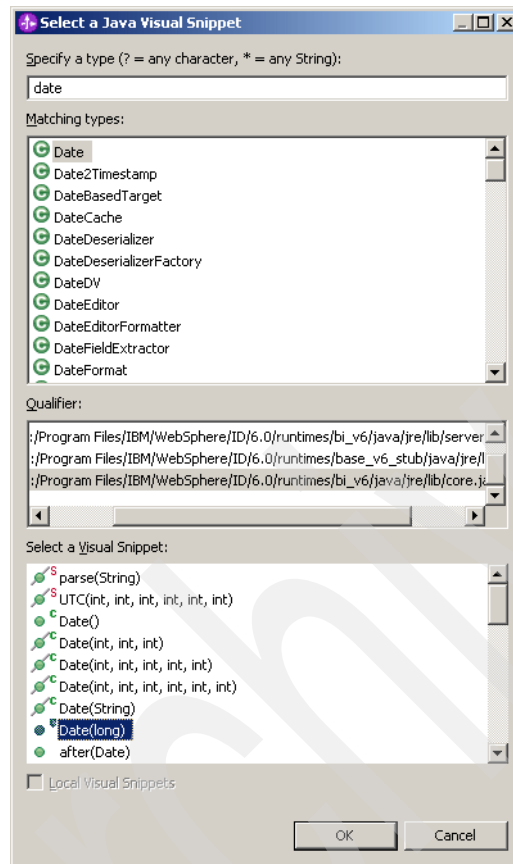

Figure 3-22 Date(long)
27. Select the **Date(long)** method, as shown in Figure 3-22, and drop this in to the true condition.